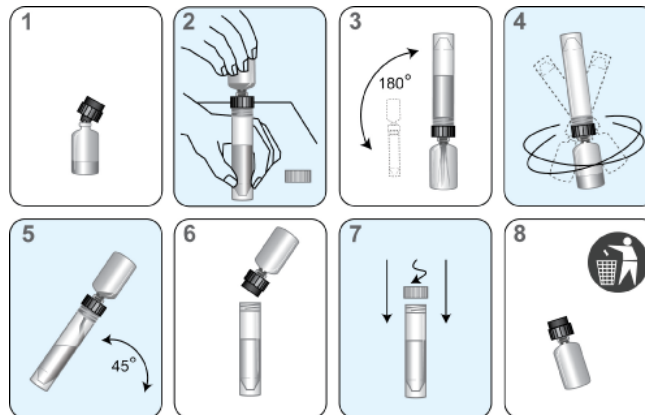

Figure 1. Panther System Reconstitution Process
- c. Open the lyophilized reagent vial and firmly insert the notched end of the reconstitution collar into the vial opening (Figure 1, Step 1).
- e. While holding the reconstitution solution bottle on the bench, firmly insert the other end of the reconstitution collar into the bottle opening (Figure 1, Step 2).
- f. Slowly invert the assembled bottles. Allow the solution to drain from the bottle into the glass vial (Figure 1, Step 3).
- g. Thoroughly mix the solution in the glass vial by swirling (Figure 1, Step 4).
- h. Wait for the lyophilized reagent to go into solution, then invert the assembled bottles again, tilting at a 45° angle to minimize foaming (Figure 1, Step 5). Allow all of the liquid to drain back into the plastic bottle.
- i. Remove the reconstitution collar and glass vial (Figure 1, Step 6).
- j. Recap the plastic bottle. Record operator initials and reconstitution date on the label (Figure 1, Step 7).
- k. Discard the reconstitution collar and glass vial (Figure 1, Step 8).